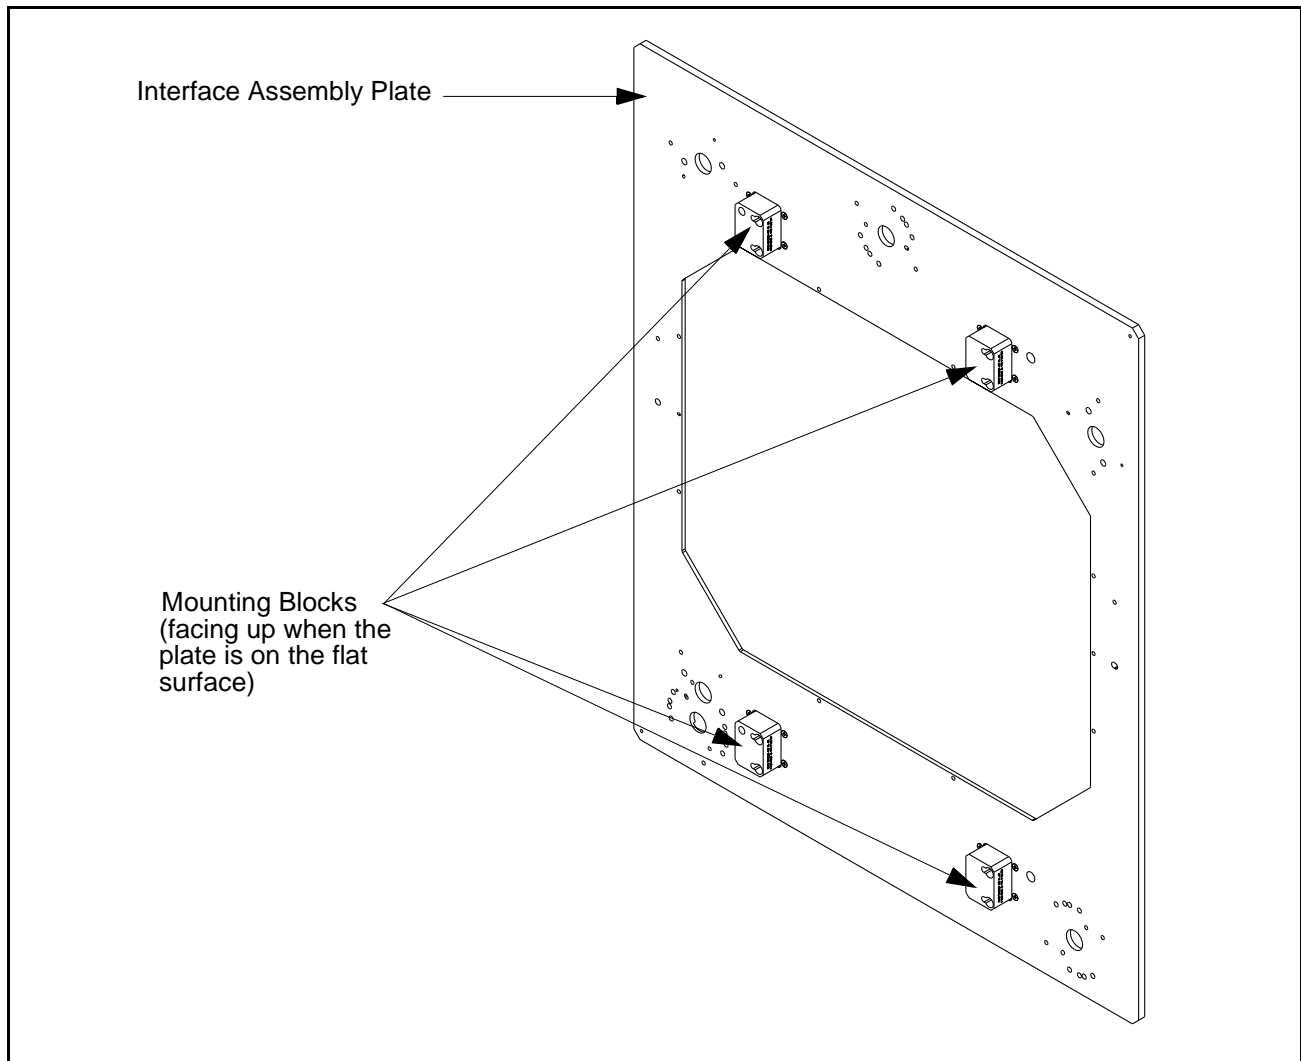

Figure 24 Positioning the Interface Assembly Plate
- 4) Position the interface assembly plate on a supporting structure so that the V-grooves are facing the floor (V-grooves face down). See Figure 24 for mounting block locations.